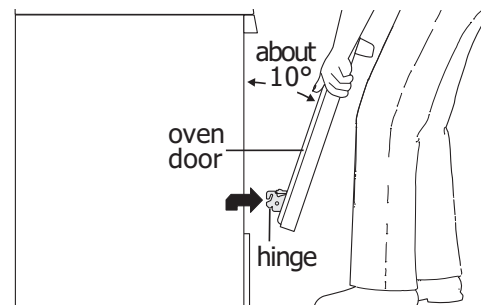
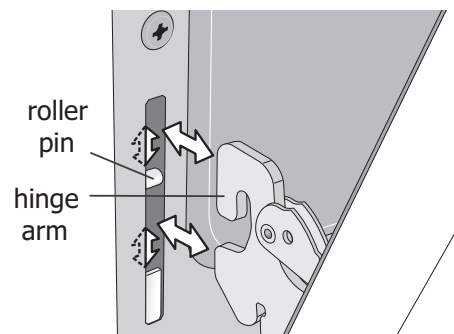

Figure 22: Holding door for removal
Figure 23: Replacement and location of hinge arm and roller pin
3. Firmly grasp both sides of oven door along the door sides. Do not use the oven door handle (See Figure 22).
4. Close the door to approximately 10 degrees from the door frame (See Figure 22).
5. Lift the oven door hinge arms over the roller pins located on each side of the oven frame (See Figure 23).
1. Firmly grasp both sides of oven door along the door sides. Do not use the oven door handle (See Figure 22).
2. Holding the oven door at the same angle as the removal position, seat the hook of the hinge arm over the roller pins located on each side of the oven door frame (See Figure 22 and Figure 23). The hook of the hinge arms must be fully seated onto the roller pins.